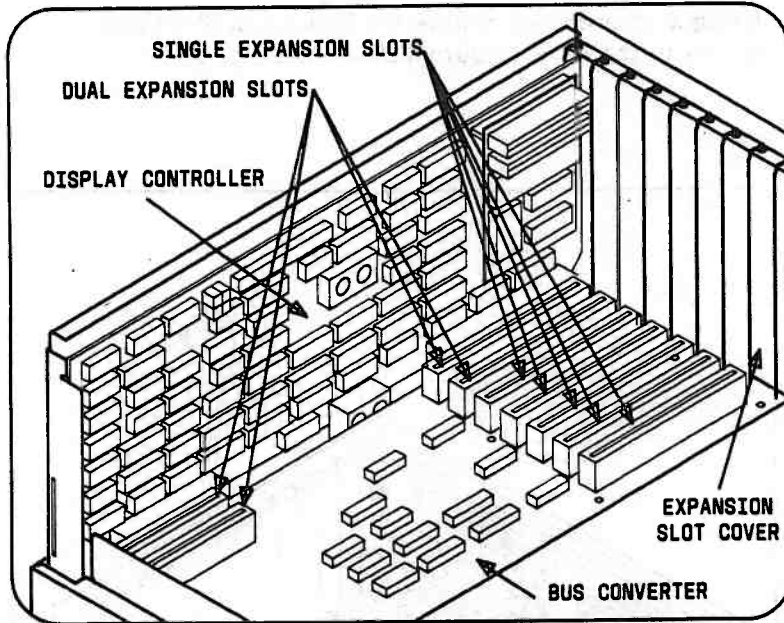

Figure 3-28. Single Connector Expansion Slots
2. Insert the HDU Controller Board into the connector expansion slot just opened (Figure 3-28).